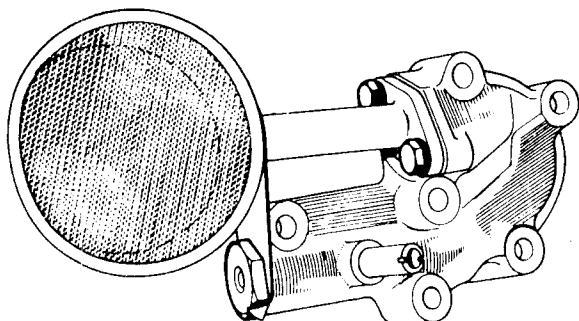
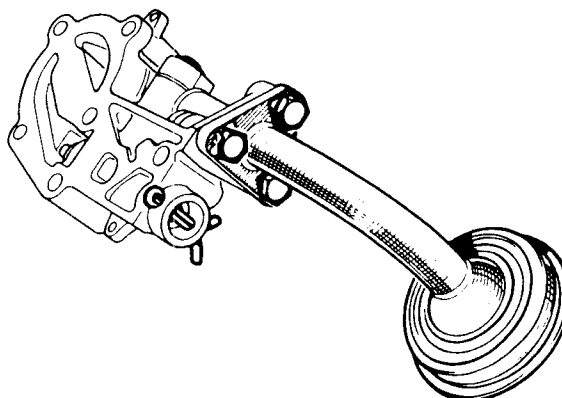

Fig.1.36 Oil pump fitted to type 697 engines of early manufacture
Fig.1.37 Later type oil pump
- 1 The design of the oil pump may vary in type according to date of engine manufacture. Fig.1.36 shows the type fitted to early model 697 engines and the later type oil pump is shown in Fig.1.37, this being fitted to all other types of engine of later manufacture.